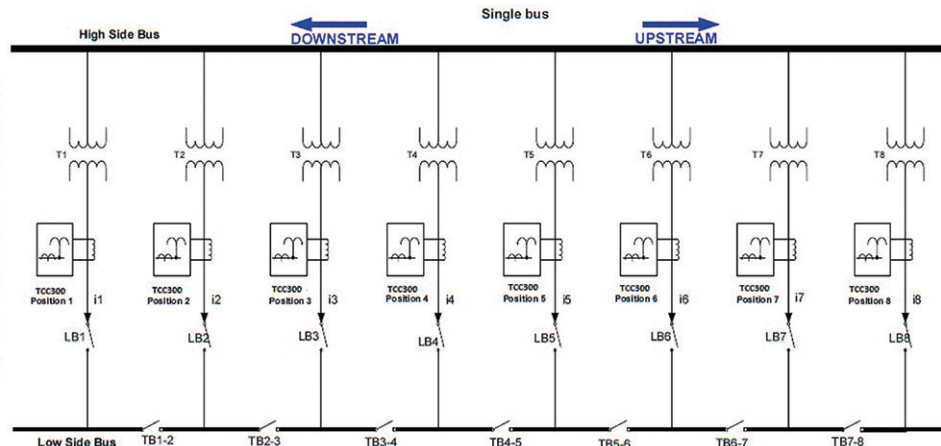

Figure 339: Breaker/Control Network Map
- Paralleling Address (1 to 16) – The Master Paralleling Address must be the highest address in the network. All Follower addresses must be a value less than the Master. The control's position in the paralleling network is determined by its paralleling address. As shown in Figure 339, Position 1
- Paralleling Address (1 to 16) – The Follower Paralleling Address must be a value less than the Master. The control's position in the paralleling network is determined by its paralleling address. As shown in Figure 339, Position 1 should be assigned a paralleling address of 1, Position 2 a paralleling address of 2 and so on, in an ascending order. In this example the Master control will be in Position 8 with a Paralleling Address of 8.